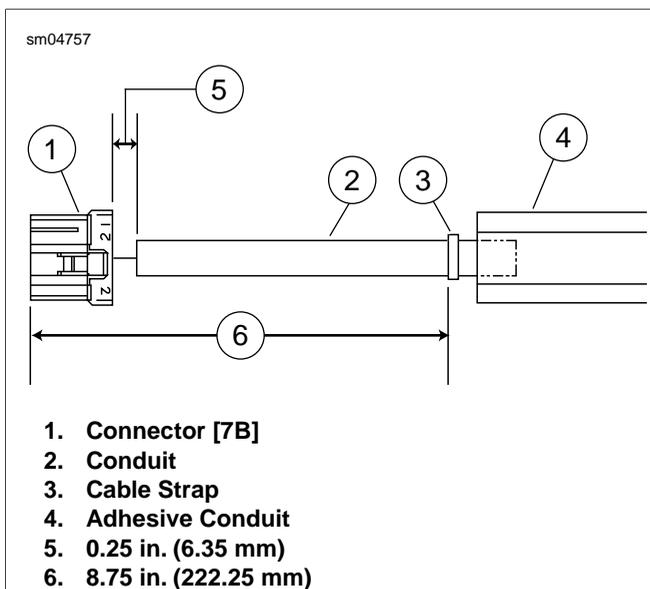

Figure 2-170. Install Cable Strap on Conduit
- b. Install cable strap 8.75 in. (222.25 mm) from mating end of connector as shown in Figure 2-170. Cut any excess cable strap material.